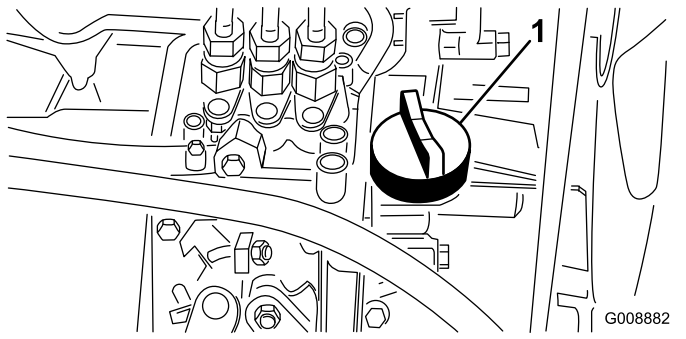

Figure 38
4. If the oil level is low, remove the oil-fill cap (Figure 38) and gradually add small quantities of oil, checking the level frequently, until the level reaches the Full mark on the dipstick.